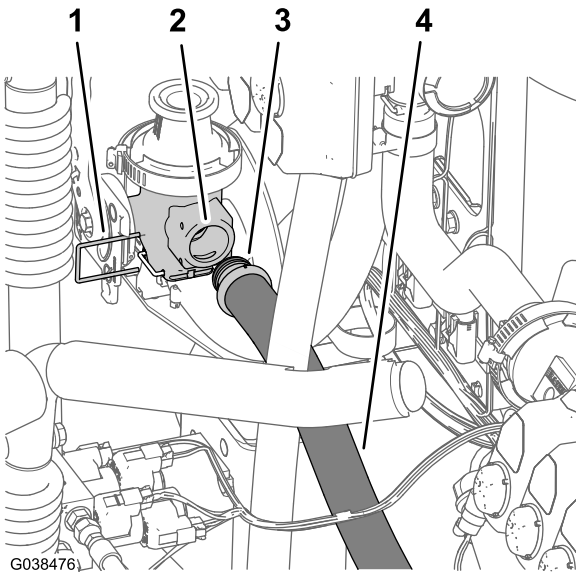

Figure 73
1. Assemble the straight barbed fitting of the lower supply hose—25 x 66 cm (1 x 25-3/4 inches) into the port of the eductor-shutoff valve (Figure 73).